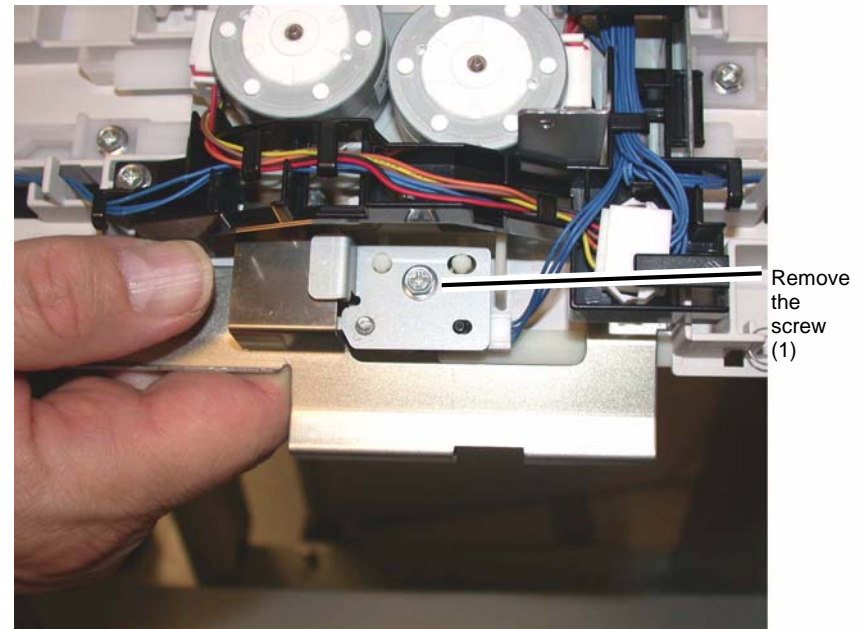

Figure 1 Removing the Bracket
5. Remove the screw (1) that secures the bracket (PL 23.12) (Figure 1).